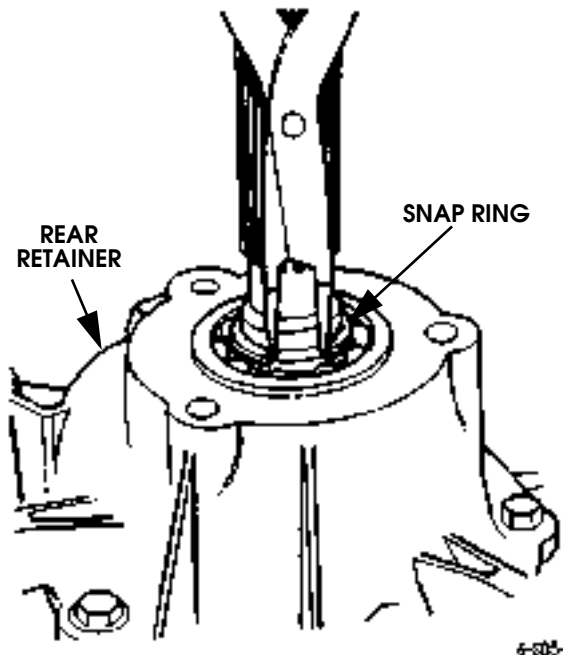

Figure 5-85: Mainshaft Snap Ring Bearing Removal
5. Remove rear retainer bolts. Then remove mainshaft bearing snap ring (Figure 5-85).